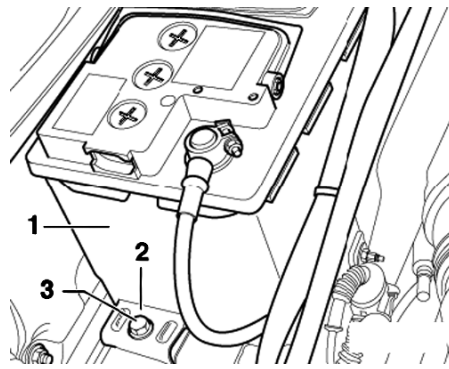

Fig. 1 Battery removal
6. Remove battery hold down bolt (3), Fig. 1.
7. Remove battery hold down bracket (2), Fig. 1.
9. Lift battery (1) out of battery tray, Fig. 1.
3. Install battery hold down bracket (2), and torque bolt (3) to 11 ft. lbs., Fig. 1.